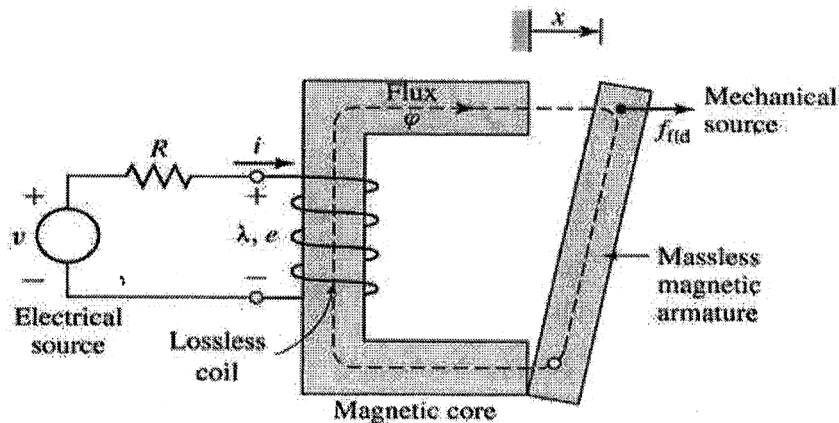

Fig.2
Consider the operation of an electromagnetic relay shown in fig.2, where one winding is mounted on a stationary member of iron and a movable member of iron as if attached to a wall of the relay by a spring on one side. Draw the relay and derive the expression for **mechanical force** if the plunger shown in fig.2 is allowed to move an infinitesimal distance in the direction of magnetic force acting upon it.
b) In an electromagnetic relay shown in fig. 2, the exciting winding has 3000 turns. The cross-sectional area of the magnetic core is $30 \text{ cm} \times 30 \text{ cm}$. The reluctance of the iron-magnetic path may be assumed to be negligible. Also neglect fringing effects.